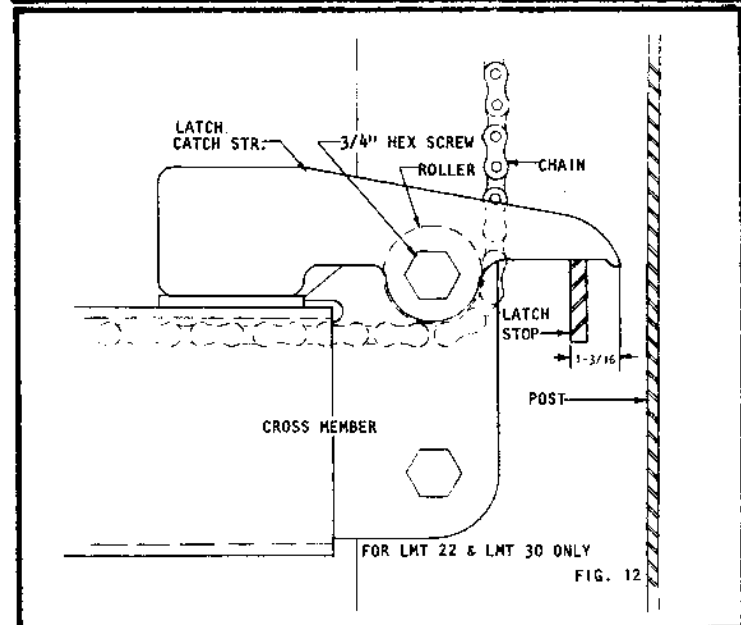

FIG. 12
48. **IMPORTANT:** All latches must rest on latch stops in post that are the same height to properly adjust linkage. (LMT22 & 30 See Fig. 12).
56. Maintain equal clearance between pivot latch and latch stop on all four post. (See Fig. 12).